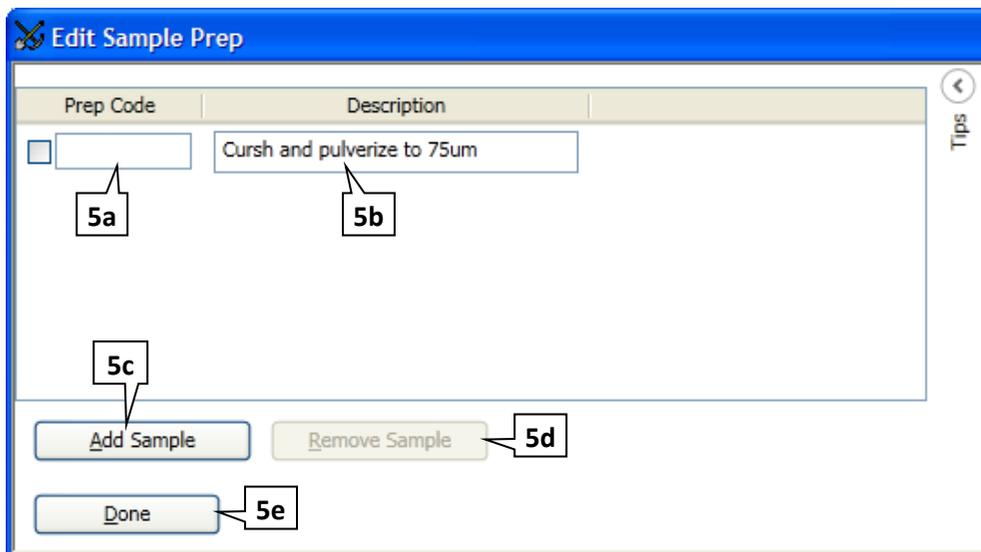

Figure 19 - Edit Sample Prep Window
5. **Enter Sample Preparation details** by pressing the **Edit Sample Prep** button. These are details of the preparation completed by the lab before the analysis (Figure 19).
These are details of the sample preparation completed by the assay laboratory before the analysis (Figure 19).